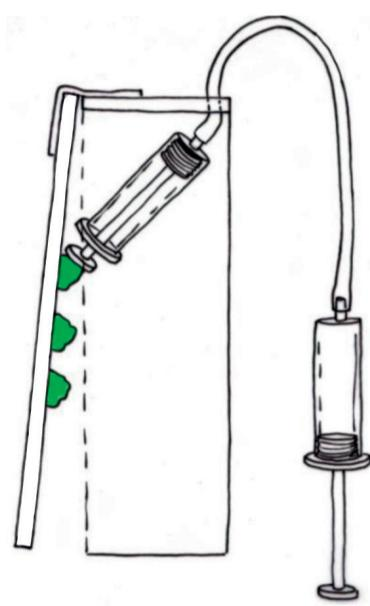

Figure 6
- Look at Figure 6. Put a piece of Prestik under the cardboard sheet so that the slave piston can push against it.
The **driven piston under the load bed should be wider than the driver piston** (in other words, it must have a bigger area than the driver piston). The reason is that the driven piston under the load bed must exert a bigger force than you exert on the driver piston. The driven piston has to lift a heavy load. (The teacher should point out to learners that the pistons in Figure 6 have roughly the same diameter, so they will have to change them to get a mechanical advantage.)